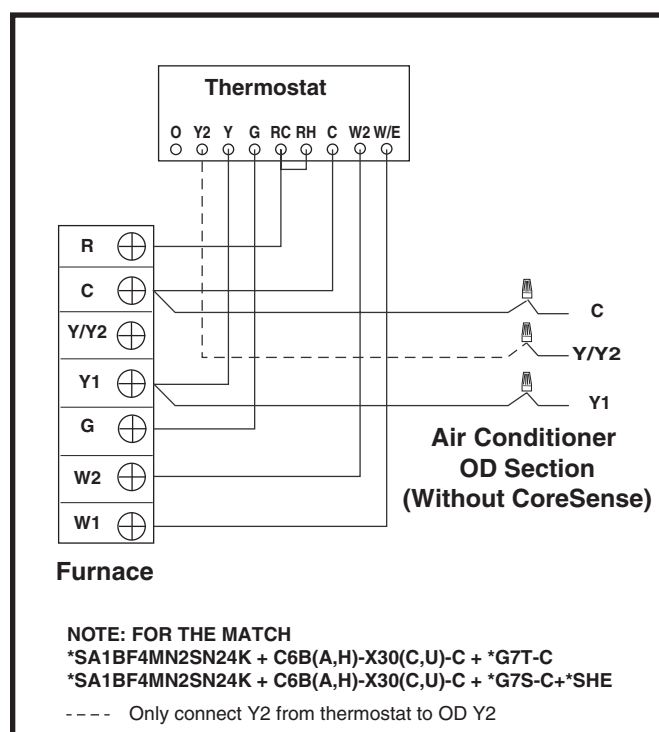

Figure 3. Typical 2-Stage Air Conditioner (without CoreSense) with Gas Furnace
- Thermostat connections should be made in accordance with the instructions supplied with the thermostat and the indoor equipment. Typical AC and thermostat hookups are shown in Figure 3.